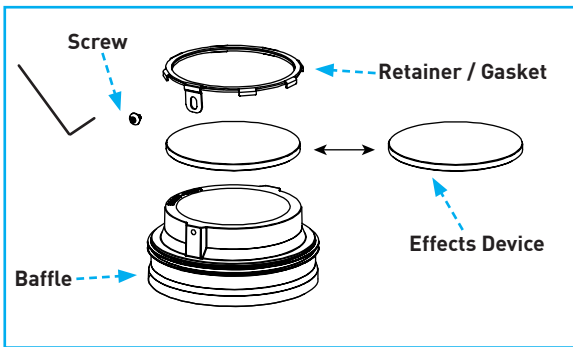

Fig.54
- C. To change lens / film, remove lens retainer and gasket by loosening and removing hex screw with the provided Allen wrench. Insert preferred lens / film in proper orientation, securing with lens retainer / gasket and replacing and tightening screws (*Fig.54*).